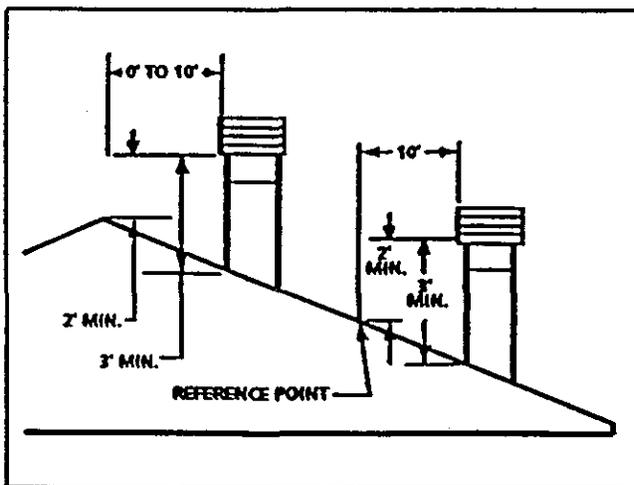

FIGURE 9
WARNING: Major U.S. building codes specify minimum chimney and/or vent height above the roof top. These minimum heights are necessary in the interest of safety. These specifications are summarized in the Ten Foot Rule (See Fig. 9). The key points of this rule are:
2. If a horizontal distance from the edge of the vent or chimney to the peak of the roof is more than 10 feet (3.1m), a vent or chimney height reference point is established that is on the surface of the roof a distance of 10 feet (3.1m) from the edge of the vent or chimney in a horizontal plane. (See Fig. 9) The top of the vent or chimney must be at least 2 feet (610mm) above this reference point, but never less than 3 feet (914mm) in height above the highest point where it passes through the roof.